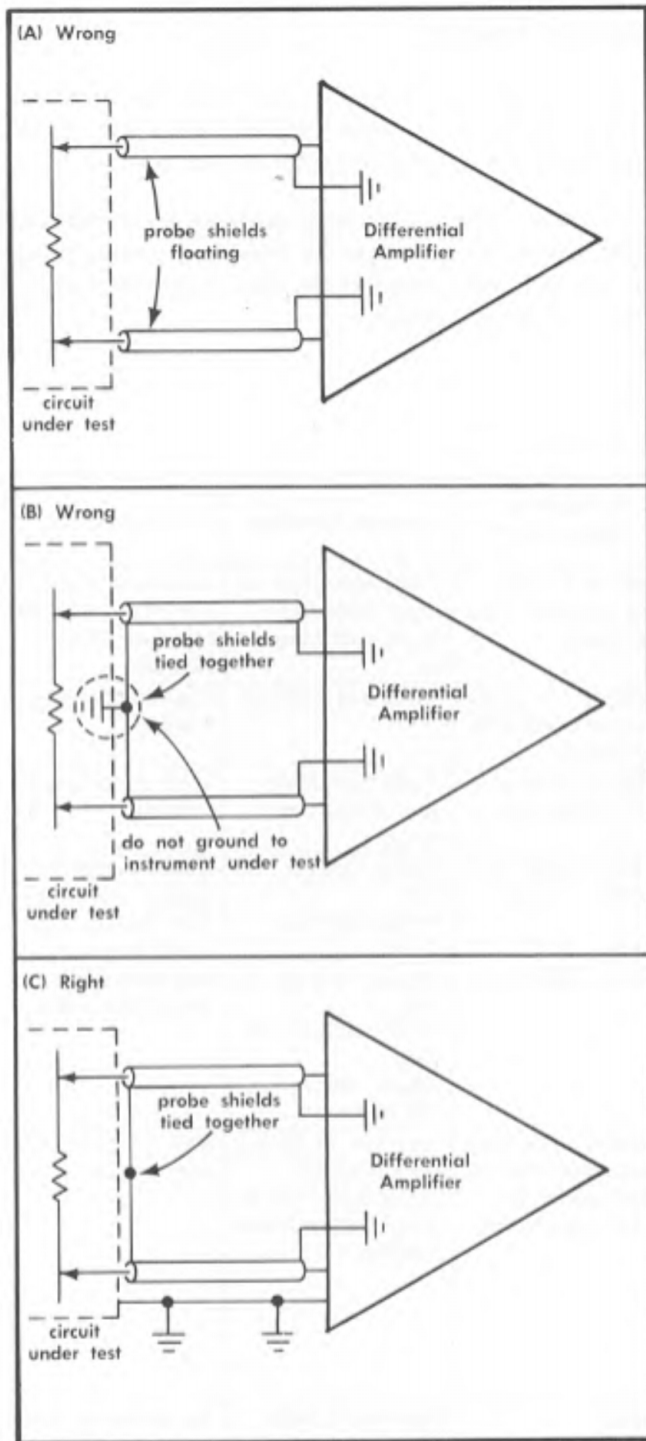

Fig. 2-10. Connecting a differential amplifier across a circuit. The ground shown in (C) is not essential to the measurement.
**Ground Connections.** Proper grounding reduces signals generated from ground loop currents. It is best to electrically connect the probe or signal lead shields together at the probe body or signal source, but not to the instrument ground. See Fig. 2-10.